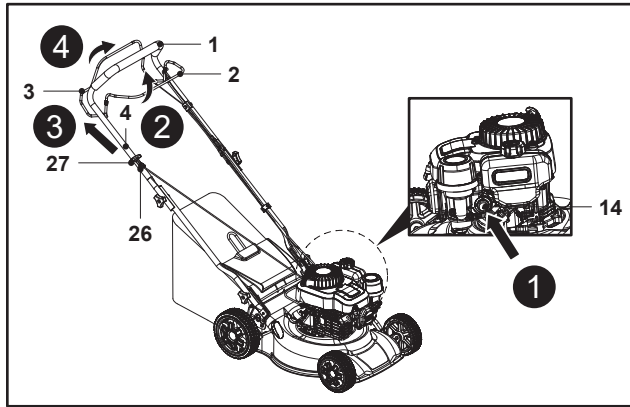

Fig. 17
1. Press the primer (14) 3 times if the engine is cold (Fig. 17, step 1). You can go directly to the next step if the engine is warm.
2. Stand behind the grip handle (1).
3. Pull back the brake lever (2) and hold it against the grip handle (1) (Fig. 17, step 2).
4. Rest the recoil starter handle (27) onto the hook (26) located on the right-hand side of the upper handle bar (4).
5. Pull the recoil starter handle (27) lightly until you feel resistance then pull it rapidly. Do it repeatedly until the engine starts (Fig. 17, step 3).
6. When you are ready to mow, push the self-propelling lever (3) forward and hold it against the grip handle (1) (Fig. 17, step 4). The machine starts moving forward and begins mowing.